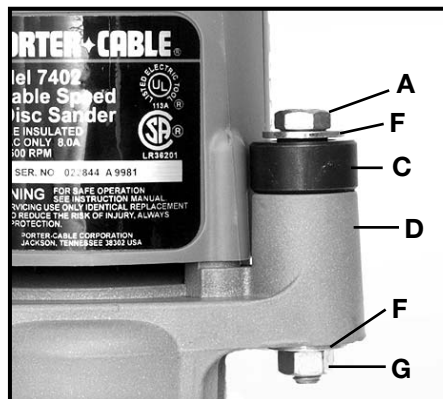

Fig. 2
5. Place the other washer onto bolt and secure with hex nut (G). Tighten securely. (See Fig. 2).